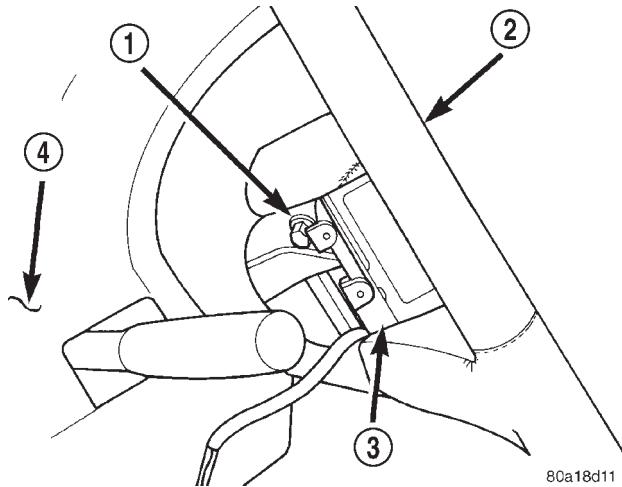

Fig. 11 Airbag Module Attaching Bolts
(11) Remove the 2 bolts, 1 on each side of the steering wheel, attaching the airbag module to the steering wheel (Fig. 11).